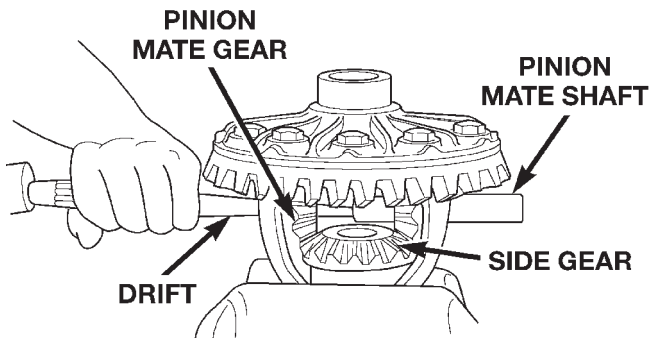

Fig. 47 Mate Shaft Removal
(5) Remove the pinion gear mate shaft. If necessary, use a drift and hammer (Fig. 47).